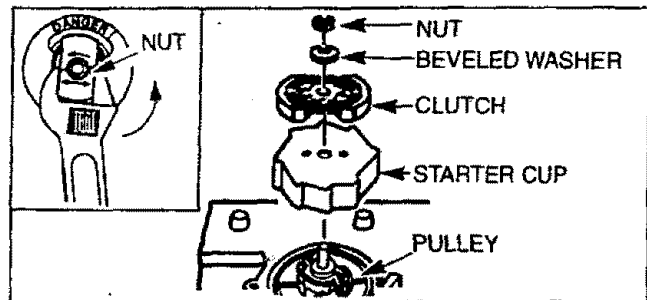

Figure 19
- Hold the "Flats" of the clutch with an adjustable wrench as shown in Figure 19 (inset). Remove the nut counterclockwise with a box wrench or another adjustable wrench.